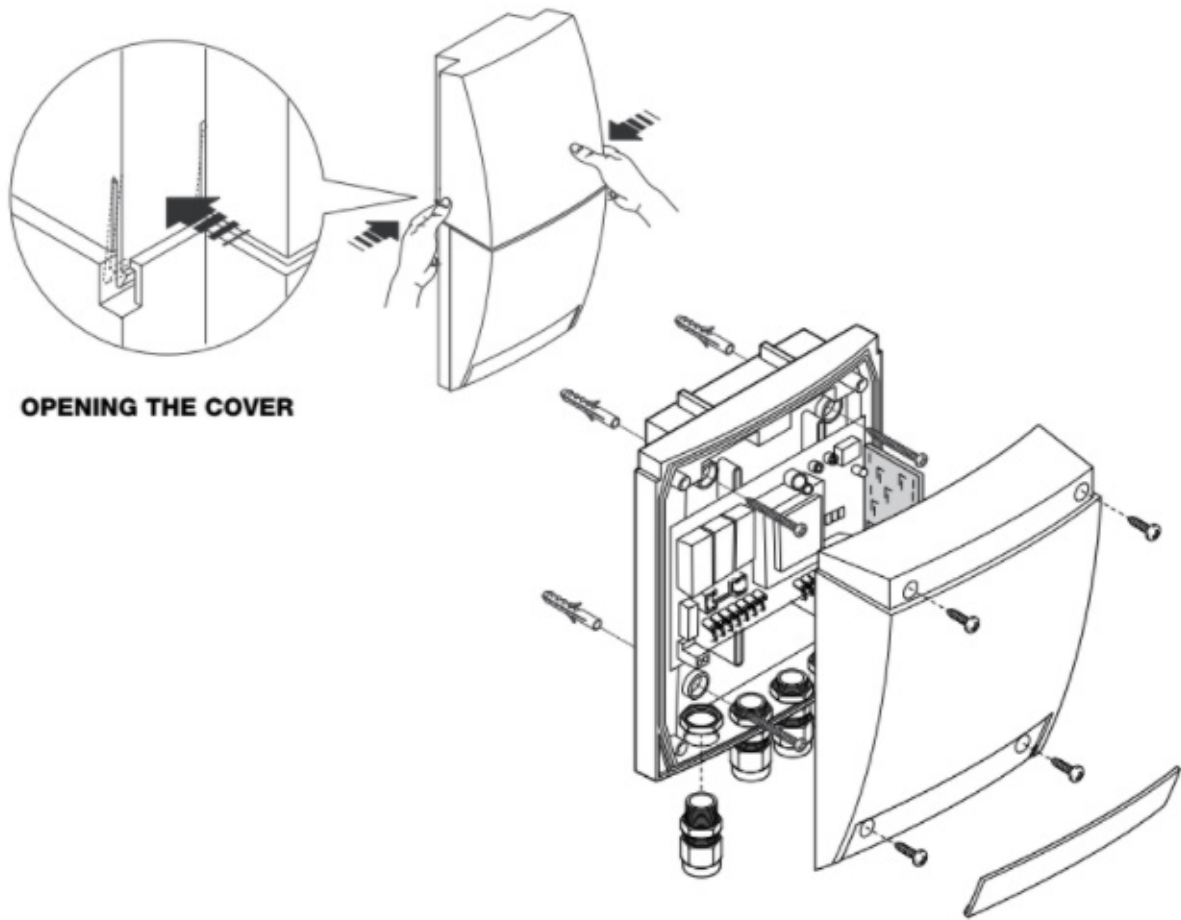

fig.1
- 1** Remove white plastic light cover by squeezing in each side and lifting away (**fig.1**).
- 2** Remove small plastic cover at the bottom of the unit to reveal screws and then remove all 4 screws from cover to reveal control board inside (**fig.1**) Warning: Take care when removing front cover as there is a membrane ribbon that connects it to the main circuit board.